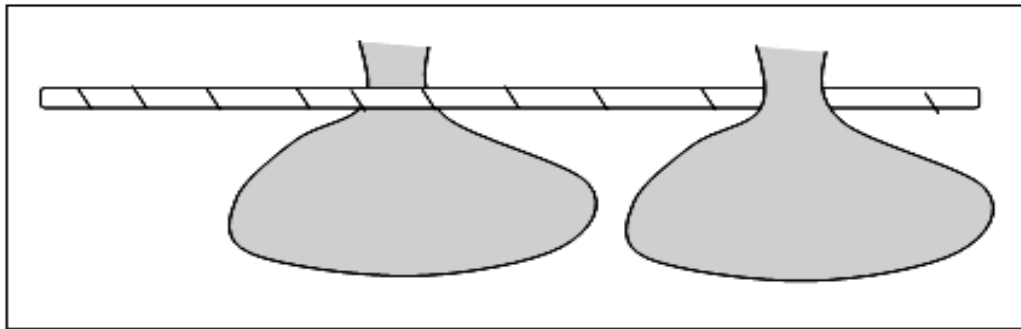

FIGURE 2
3.1 Explain the purpose of mushroom rollers shown in FIGURE 2.